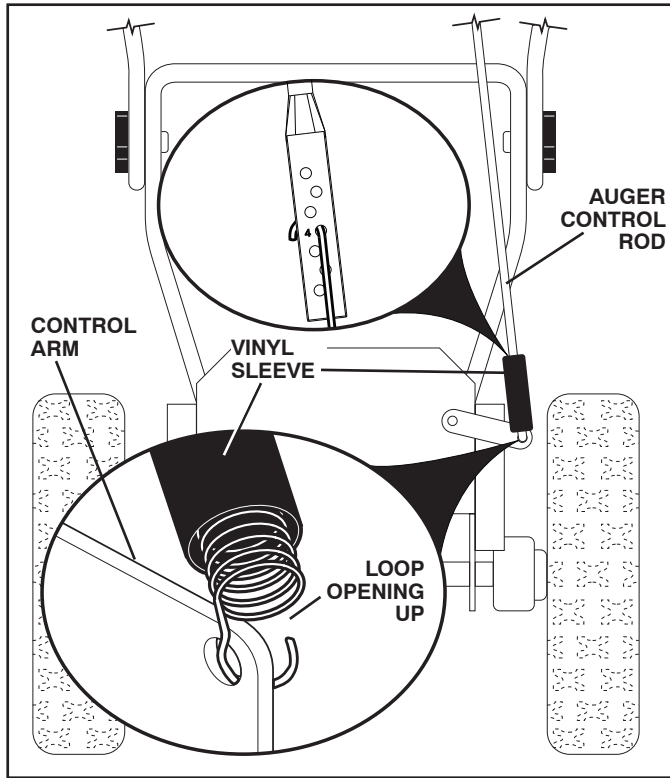

FIG. 5
## INSTALL AUGER CONTROL ROD (See Figs. 5 and 6)
1. Retrieve vinyl sleeve and spring from bag of parts and retrieve the auger control rod from carton chute tray. Slide straight rod end through the small hole in the vinyl sleeve. Using the long hook end of the spring, hook spring in hole #4 in rod. (See Fig. 5).
2. Hook end of spring into control arm with loop opening up as shown. (See Fig. 5).